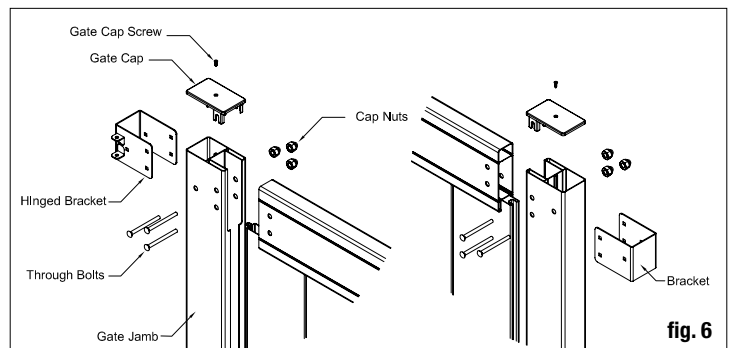

fig. 6
Place gate jambs on both sides of the rails and place the hinges on the gate jamb so they are aligned with the rails. Using the bracket as a guide, drill the three (3) necessary 1/4" holes for the bracket bolts. Repeat these steps for the hinged brackets as well (fig. 6). Ensure the rails are fully inserted in the jamb before drilling. The bolts need to go through the jamb and rail to function properly.